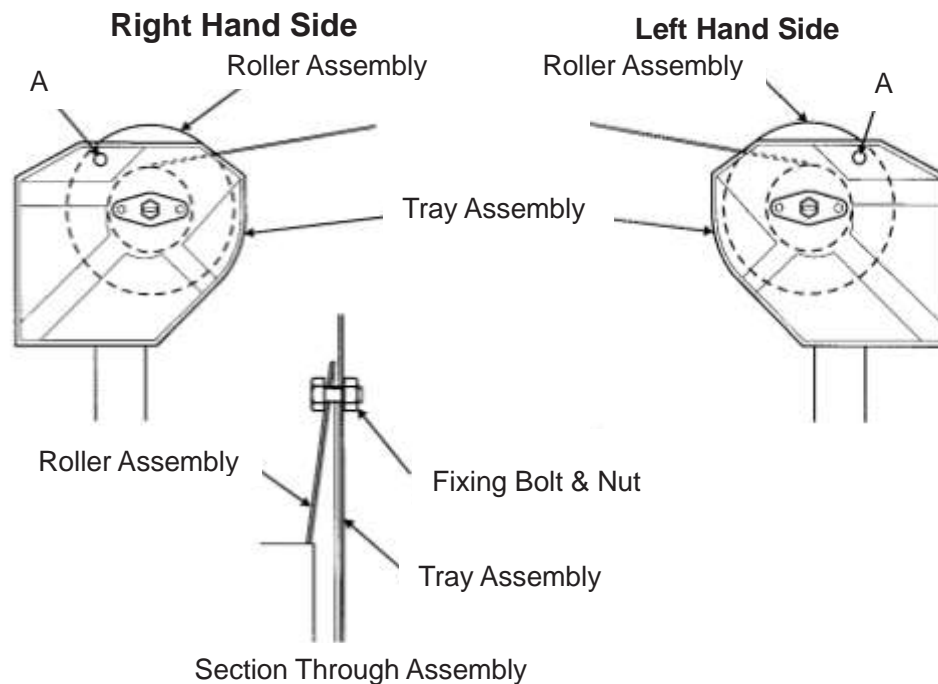

Figure 8.2
- 2) Align hole 'A' in the tray and roller assemblies. Insert into hole 'A' a M10bolt minimum length of 30mm to lock the roller assembly in position as shown in Fig 8.2.